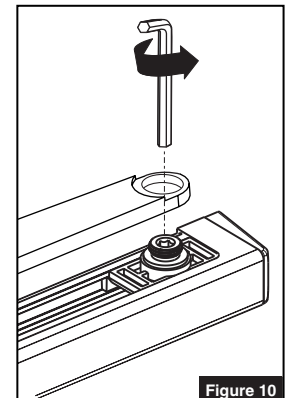

Figure 10
2. Secure main arm to track slider using 3/16" hex wrench. Turn wrench counterclockwise to tighten. (Figure 10)